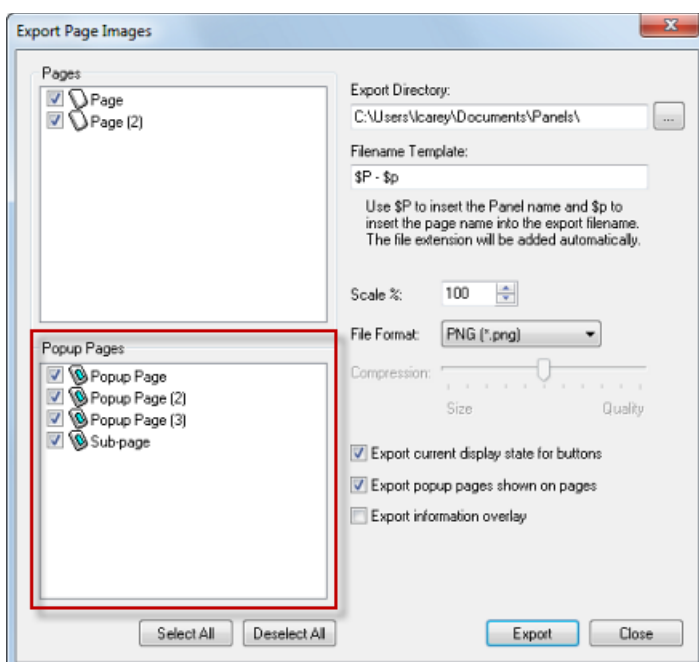

FIG. 68 Export Page Images dialog
1. Select **Panel > Export Page Images** to open the *Export Page Images* dialog (FIG. 68):